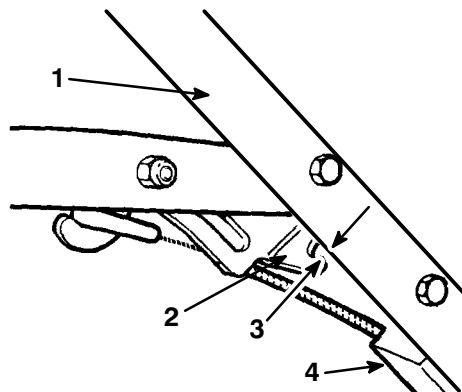

Figure 34
A. Loosen the nut on the cable bracket (Fig. 34).